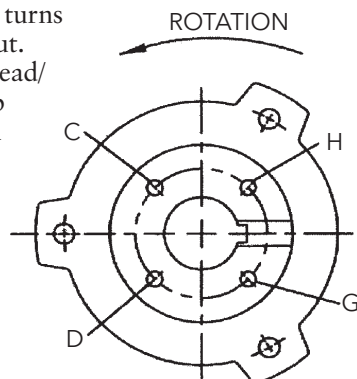

Figure 8
NOTE: Shaft adjustment up or down is accomplished by turning the adjusting nut (604) Figure 8.
NOTE: There are five holes in the adjusting nut and only four in the motor coupling. See Figure 8.
- For Open Impellers, Align hole "A" in the adjusting nut (604) and hole "C" in the driver coupling (See Figure 8) or whatever similar holes are in like position. If care is exercised, this will give an initial impeller clearance of 0.001" to 0.003" depending on shaft size or the pitch of the thread.